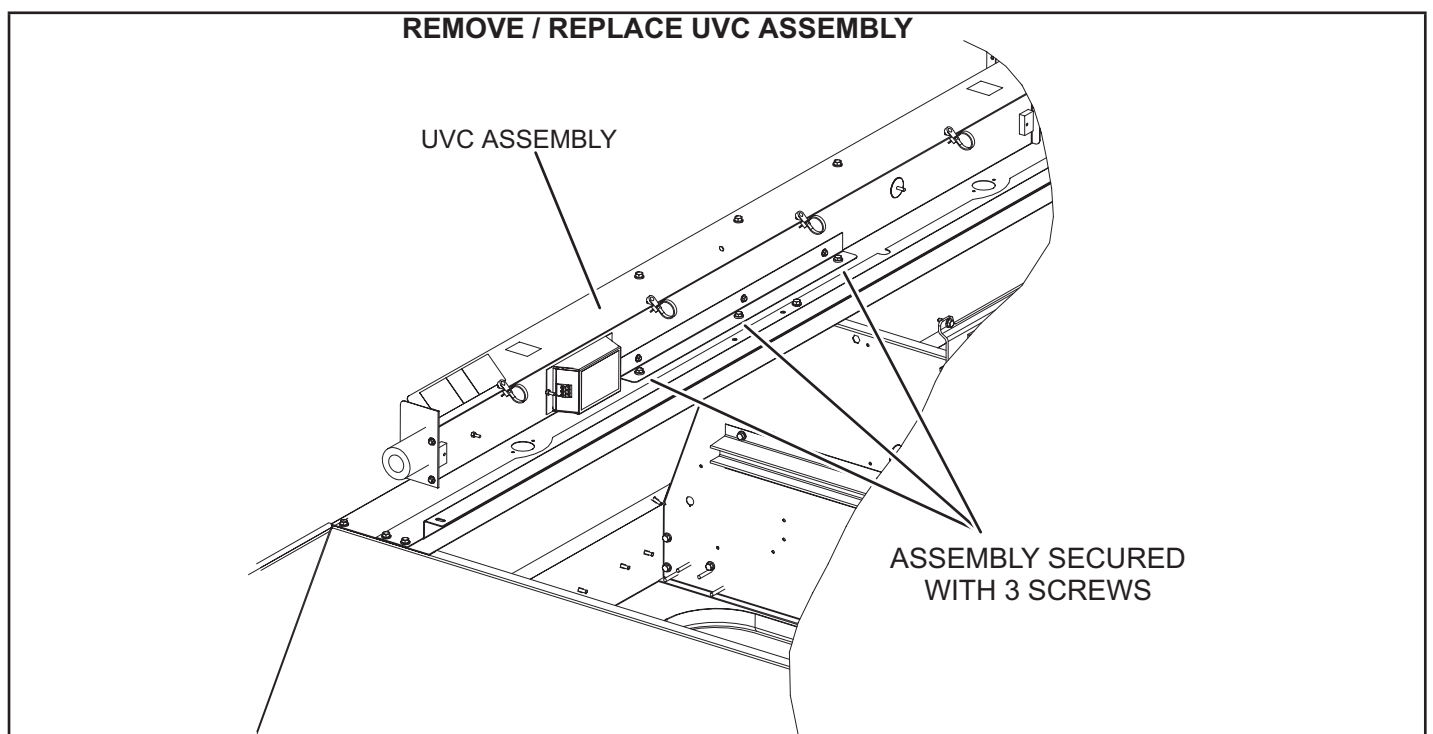

FIGURE 54
- 5 - Remove and retain the (3) mounting screws securing the UVC assembly. Carefully remove the complete UVC assembly out through the blower access door. See FIGURE 54.